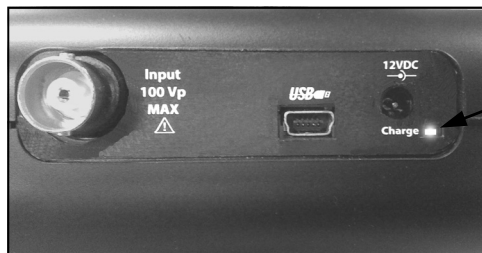

Fig. 3.0
- ⇒ The **"Charge"** indication LED on the top panel will light up when the batteries are being charged (see fig.3.0).